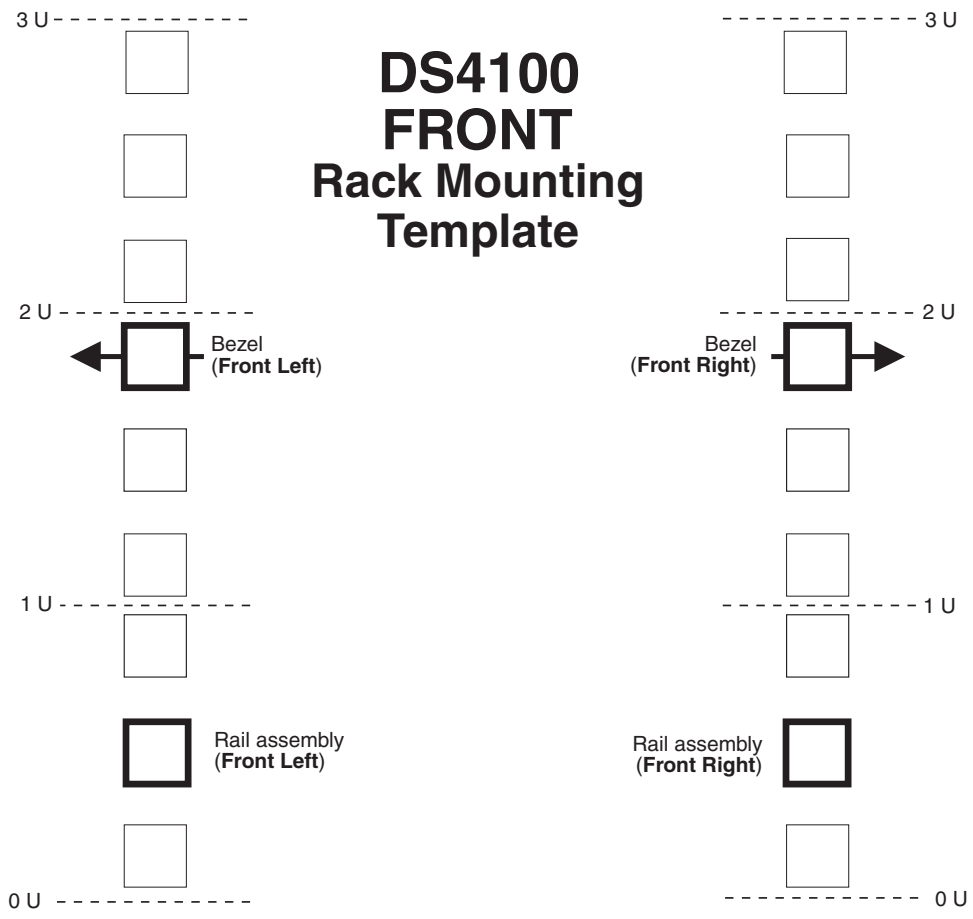
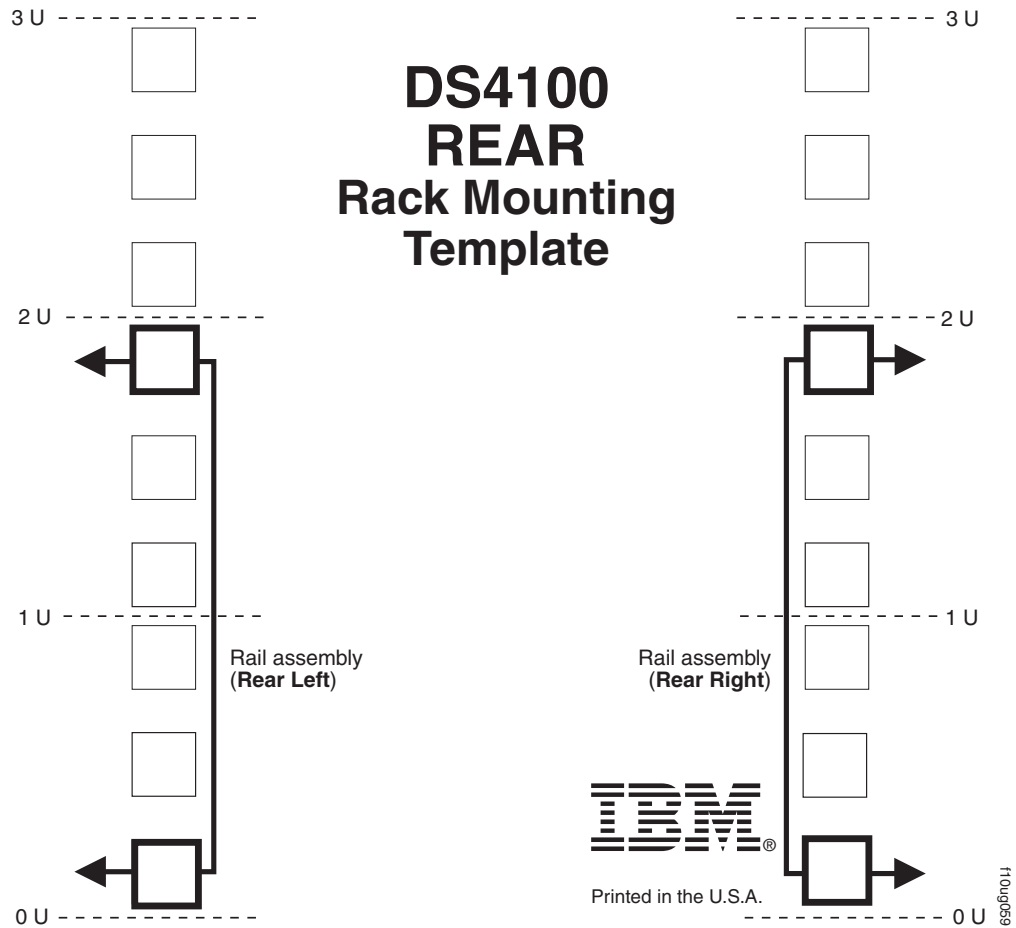

Figure 9. Front rack mounting template
Figure 10. Rear rack mounting template
Use the following templates (Figure 9 on page 21 and Figure 10 on page 22) to identify the proper locations for inserting M6 screws when mounting the support rails and DS4100 to a rack cabinet. The locations for the M6 screws are highlighted in the templates.
Attention: Use the rack mounting template provided in Figure 9 on page 21 and Figure 10 on page 22 to locate the proper rack mounting holes for installing the support rails into the rack cabinet.
6. Hold the front of the rail against the inside of the right rack-mounting flange and loosely tighten the lower M6 screw (**4**). See Figure 9 on page 21 for the location for this screw.
8. From the rear of the rack, thread and tighten two M6 screws (**1**) (see Figure 10 on page 22 for the location for these screws). From the front of the rack cabinet, finish tightening the front M6 screw (**4**).